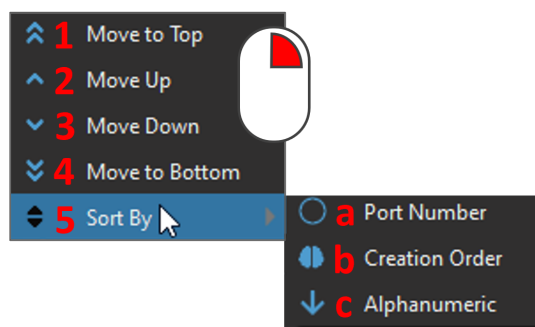

Figure 11.13: Graph View, Arrange graph order
The order of the individual graph can be modified (within the channel types) by *right clicking* one of the graphs in the **Graph View**. This opens a small pop-up menu (Fig. 11.13), that includes the following options:
1. The **Move to Top** option (Fig. 11.13, 1) sets the selected graph as the first one of its channel type within **Graph View**.
2. The **Move Up** option (Fig. 11.13, 2) shifts the selected graph towards the top by one graph, but only within its channel type.
3. The **Move Down** option (Fig. 11.13, 3) shifts the selected graph towards the bottom by one graph, but only within its channel type.
4. The **Move to Bottom** option (Fig. 11.13, 4) sets the selected graph as the last one of its channel type within **Graph View**.
5. The **Sort By** option (Fig. 11.13, 5) rearranges the graph order based on:
- a) The **Port Number** option (Fig. 11.13, a), set a chronological order within each channel type (e.g. AIN01, AIN02, AIN03, etc.).
- b) The **Creation Order** option (Fig. 11.13, b), such that the first created channel will be on top and the last created channel will be on the bottom.
- c) The **Alphanumeric** option (Fig. 11.13, c), such that the **UserName** of each channel will be ordered alphanumerically.